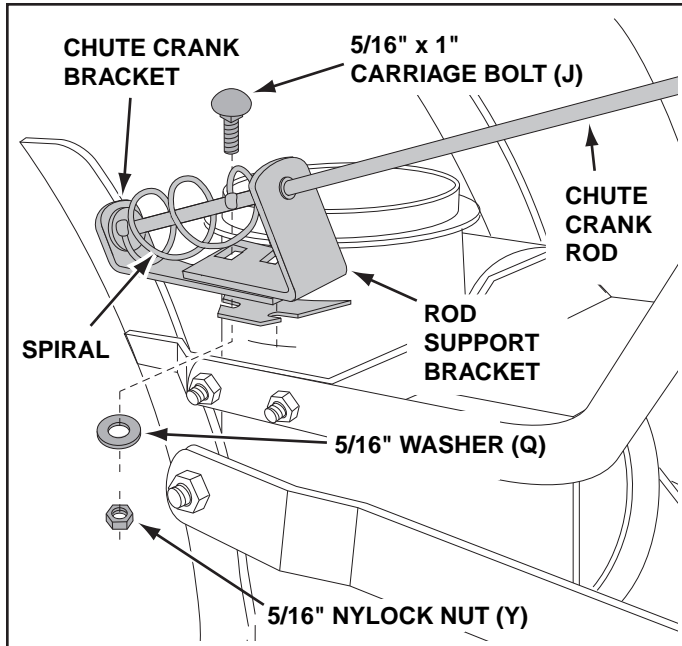

FIGURE 51
### STEP 52: (SEE FIGURE 51)
- Place the discharge chute (facing forward) onto the ring. Place the anti-rotation bracket on top of the chute flange, aligning it with the holes on the right hand side of the flange. Attach the three chute keepers (BB) (right side up as shown) to the bottom of the flange using six 1/4" x 1" hex bolts (D), 1/4" flat washers (P) and 1/4" flanged lock nuts (V). **Tighten carefully** so that the nuts are snug but do not dig into the plastic chute keepers.
- Place the plastic cap (HH) onto the short end of the anti-rotation bracket.
- Position the crank rod spiral (see figure 51) so that it does not rub against the bottoms of the notches in the chute flange. **Tighten** the nuts.
- Secure the control cables to the crank rod support tube using a nylon tie (II).